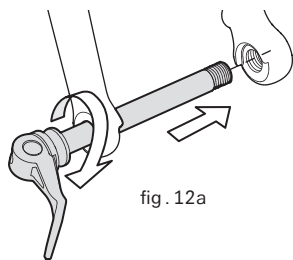
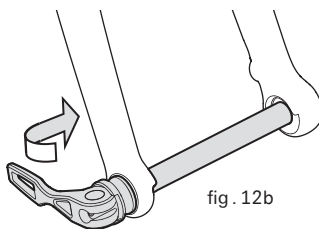

fig. 12a
fig. 12b
5. If your bike has the **Cervélo Traditional Thru-Axle mechanism**, move the preload lever to the OPEN position and rotate it to engage the slotted OPEN position (fig. 11a). Carefully insert the wheel between the fork blades, ensuring that the disc rotor properly slots between the brake pads as it slots into the caliper until the hollow axle lines up with the holes in the fork dropouts. The preload lever should be on the right side of the bicycle. Slide the thru-axle through the fork dropout and wheel hub until it contacts the dropout on the left side of the fork. Visually align the thru-axle with the dropout hole on the left side of the fork, and turn the preload lever clockwise to thread the axle into the dropout (fig. 12a). Continue to tighten until the threads are fully engaged in the left side dropout. Move the preload lever into the CLOSED position (fig. 12b). The lever should now be parallel to the fork blade and curved toward the wheel.